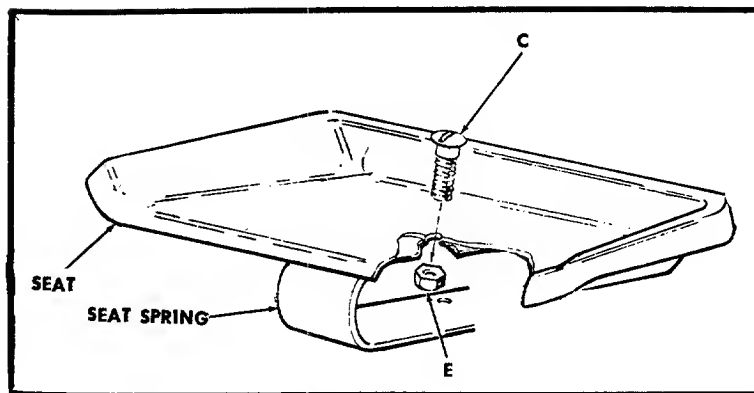

FIGURE 6. SEAT ASSEMBLY
- Step 9. Assemble the seat to the seat spring with carriage bolt C and nut E. See figure 6. The seat is adjustable to one of four positions.